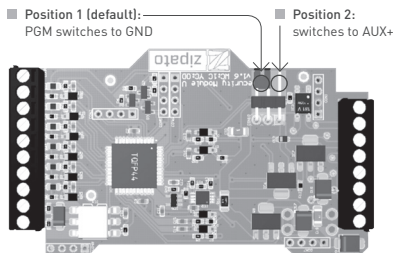

Figure 1 – Jumper cap positions
- 6 locate the jumper cap on the top board of the module and adjust it accordingly [see Figure 1]